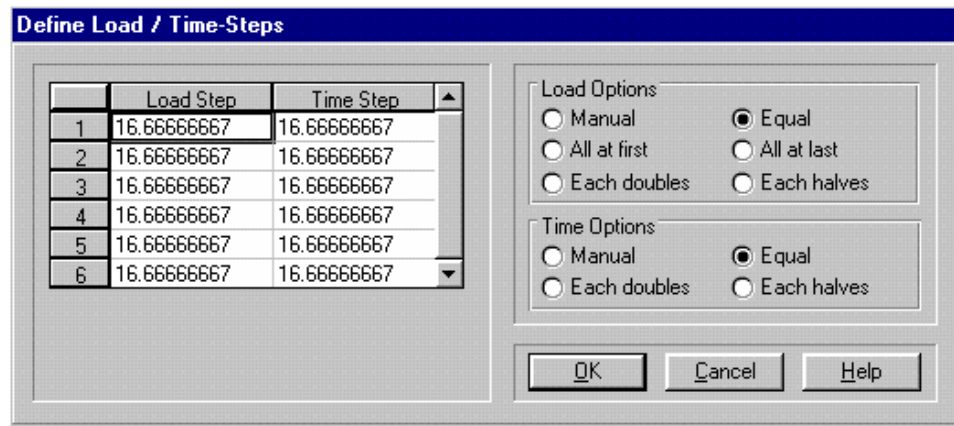

Figure 3-11: Defining Load and Time Steps
Step 4 Select **Equal** in the Load Options group box. The Define Load/Time Steps dialogue box should now look like Figure 3-11. Click on **OK** to return to the Increment Block Information dialogue box, once you have finished.